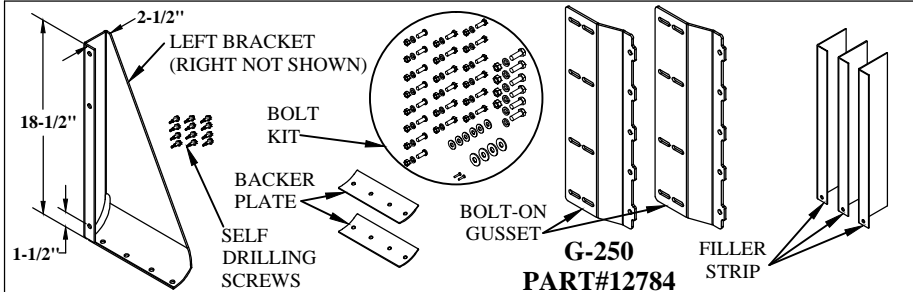

Figure 1: G-250 Part Identification.
2. Verify mounting bracket kit (Figures 1 and 2 and Tables 1 and 2).